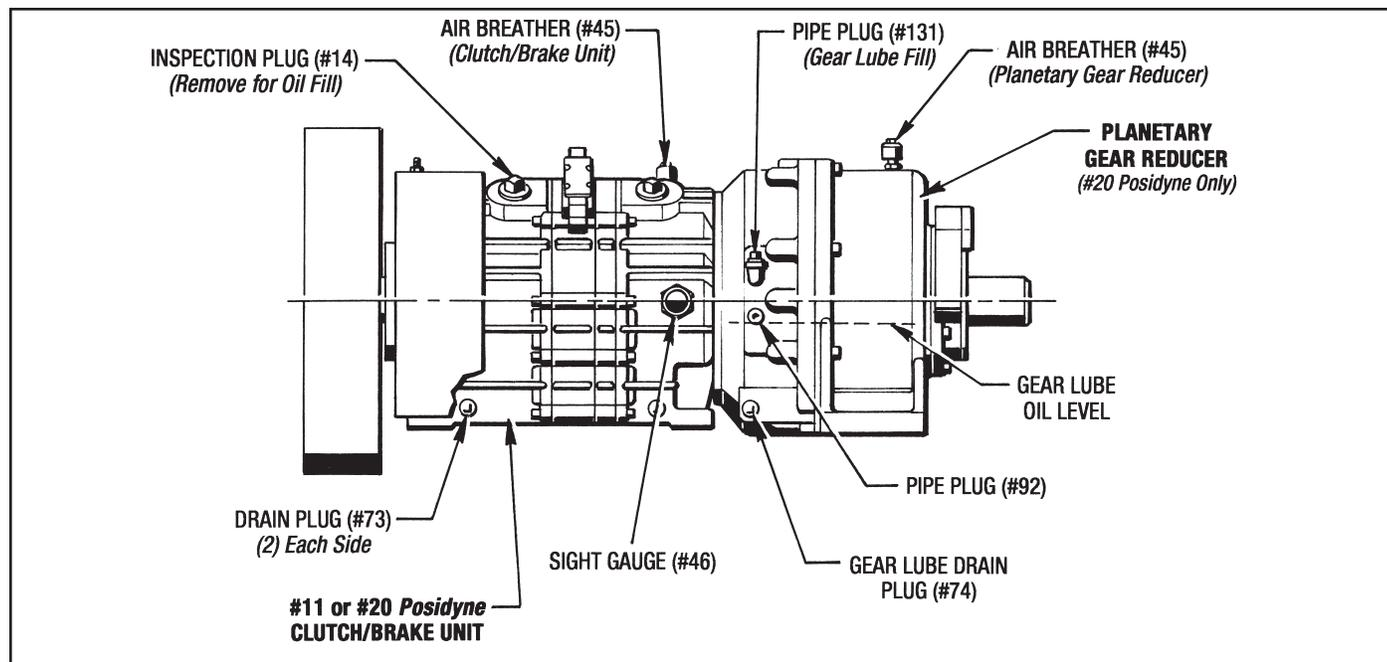

Figure 4.1 - Lubrication
(See Figure 4.1)
(See Figures 4.1 and 4.2)
Remove Pipe Plugs (#131) and (#92) and fill the Transfer Case until the oil starts to come out the "Oil Level Hole" as shown in Figure 4.1. The Gear Reducer hold approx. 10 Qts. (2-1/2 Gal.) of Gear Lube. Replace the (2) Pipe Plugs (#131) and (#92).